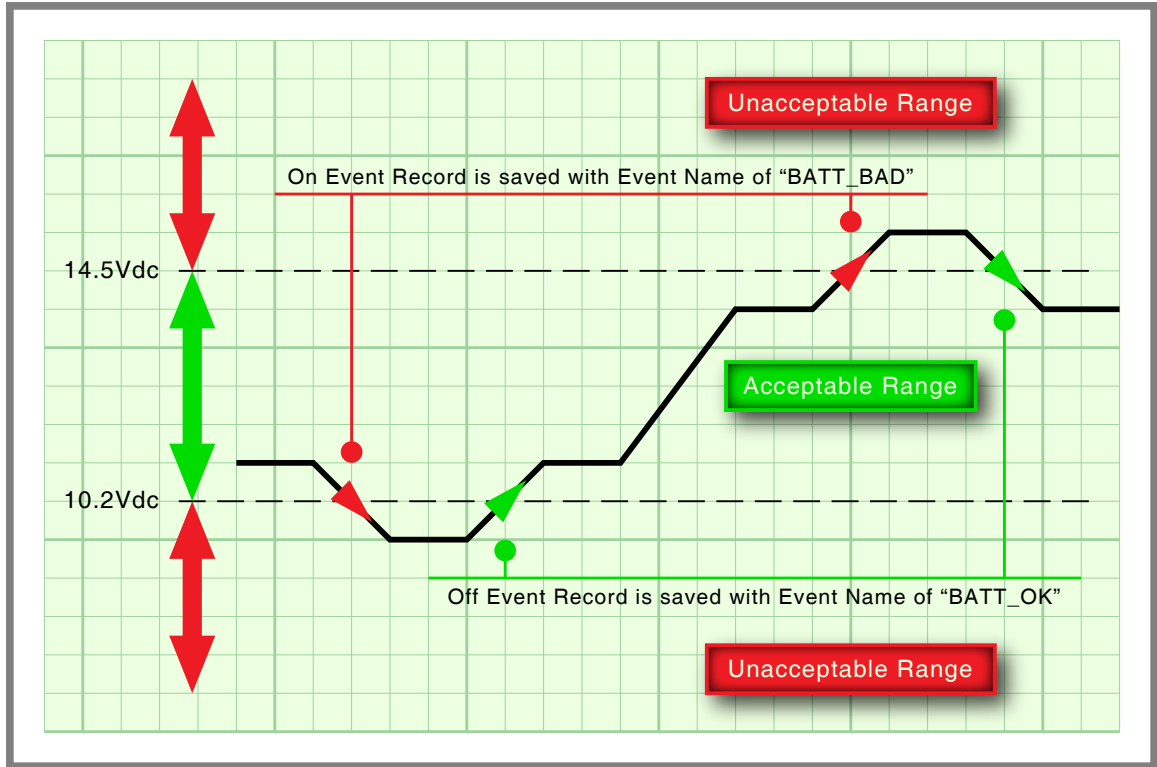

Figure 10: Analog Input Operating Ranges and Limit Values
Figure 10 on page 36 illustrates the relationship of the High and Low Limit Values to the Analog Input state. Each range defines the type of Event Record that is created by transitions of the input. The figure depicts an Analog Input configured to monitor a typical 12Vdc battery source. The figure indicates that the unacceptable range includes all voltages less than 10.2Vdc and all voltages greater than 14.5Vdc. The unacceptable range always consists of two portions separated by the acceptable range. If the input is within the range extending from 10.2 to 14.5Vdc the battery voltage is considered to be acceptable.
On—The Digital Input voltage is in the range from 9 to 36 Vdc. The Analog Input level is outside the acceptable range as defined by the region between the Limit Values. Refer to Figure 10 on page 36. The Virtual Input evaluates to a true logic state. The Timer Input has reported a timed interval that is either too fast or too slow as compared to its assigned High and Low Limit Values, respectively. Refer to the section entitled "Timer Inputs (W)" on page 36.